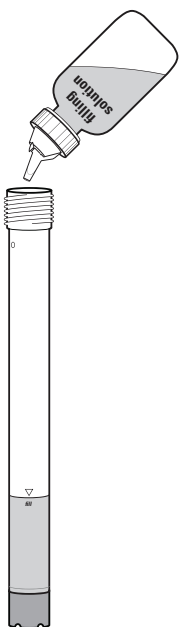

Figure 4
4. Fill the preassembled outer body and membrane cap to the fill line with electrode filling solution. See **Figure 4**.